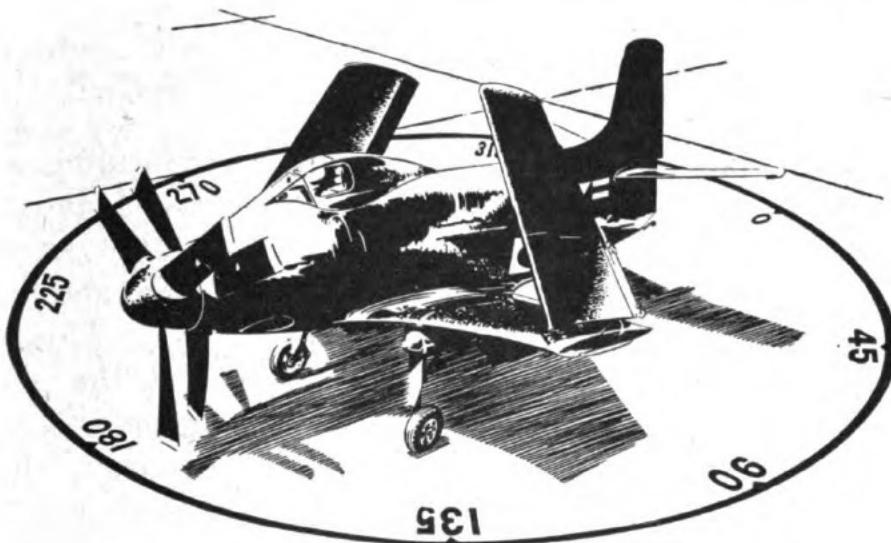

Figure 58.—Compass rose, with airplane on south heading.
**GROUND SWINGS.** Ground swinging is usually done with the airplane at rest on a COMPASS ROSE—as shown in figure 58. A compass rose is much like an oversized card from a navigation compass, and is usually laid out or painted on the ground at most air bases. The directions shown by it are MAGNETIC directions—that is, the north arrow points toward the earth's north MAGNETIC pole, but many compass roses also have a line showing true north.